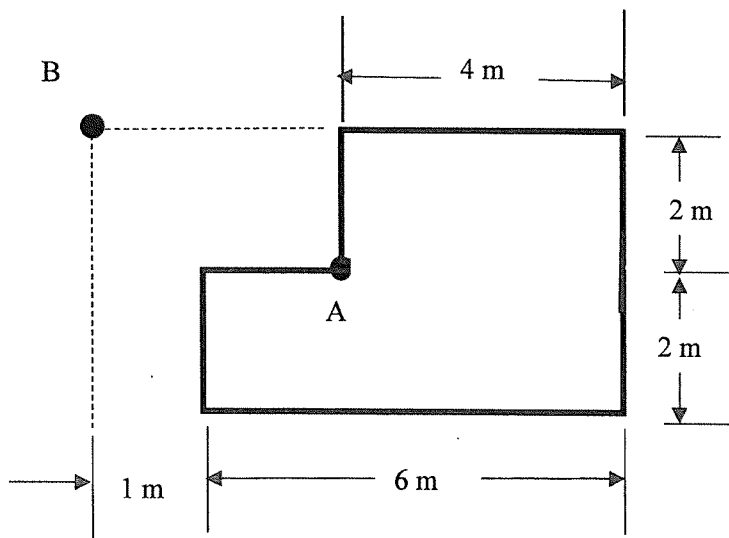

Figure Q2b
- d) A foundation with dimensions shown in plan in Figure Q2b carries a uniform load of  $q = 80 \text{ kN/m}^2$ . Compute the vertical stress increase under points A and B at a depth of  $z = 4 \text{ m}$ . [10]